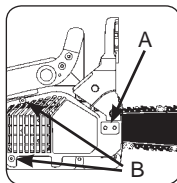
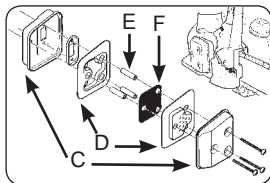

Fig. 20A
Fig. 20B
1. Remove the 2 bar retaining nuts (A) and loosen the 2 screws (B) that secure the chain brake cover (Fig. 20A).
3. Separate muffler halves (C). Remove the metal baffles (D) and spacer tubes (E).
4. Discard the used spark arrester screen and replace it with a new one (F) (Fig. 20B).